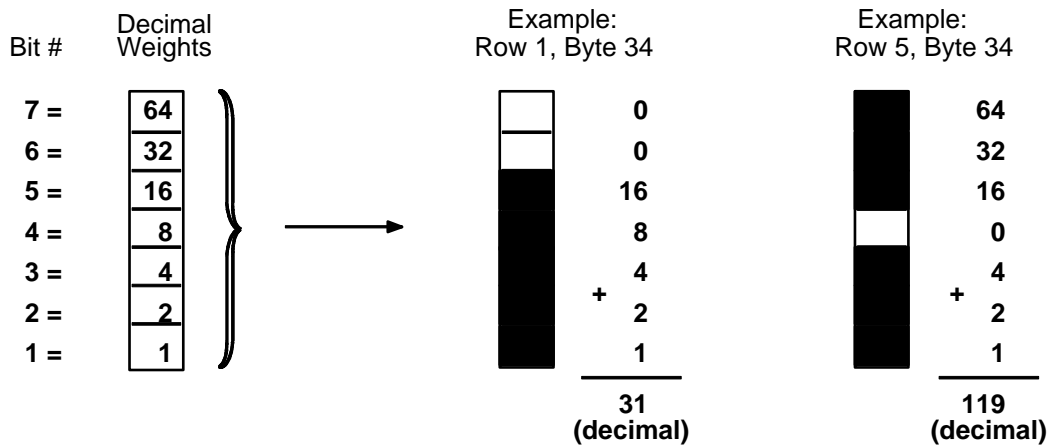

Figure 31. Logo Design
8. Define the logo, and return to the form to add the logo data. The HandCraft logo is a hand with a sailboat as plotted in Figure 31. Use the Logo Grid in Appendix C to plot the dot positions for your logo the same way. Drawing the logo out on a grid permits the dot positions for each vertical data byte in the logo to be computed and input as data in the Plotting Graphics (Q) command. Notice that where dot positions are *not* computed, the boat image in the hand emerges. The complete program for the HandCraft logo starts on page 240.
For example, the values in Table 46 have been assigned to bits 1 through 7 for the first 0.1-inch row of data bytes (1 through 42) shown in Figure 31. Each byte was first calculated in decimal and then converted to the equivalent hexadecimal value (using the ASCII chart in Appendix A). The hexadecimal values are the data for the program shown on page 240.
Following this scheme, all hex data bytes for an entire 0.1 inch row (seven vertical dot rows) of the logo can be calculated. Subsequent rows are calculated similarly. To print each 0.1-inch row of the logo, the print position is shifted down 0.1 inch using the Justification command, and then same vertical data byte columns are used. (See the second example in Figure 31.)